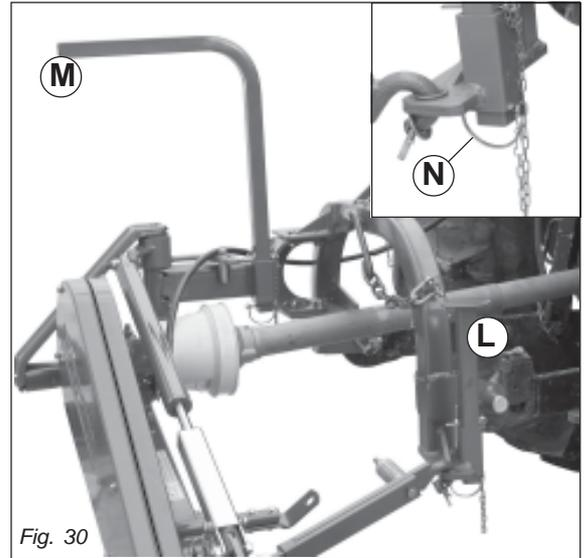

Fig. 30
- Remove the supports (L and M, Fig. 30) and remount them, upside-down in their seat . Install spring locking pin in order to secure parking stand (N).